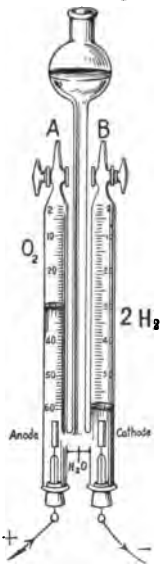

FIG. 313. — Water is broken up into oxygen and hydrogen.
**347. Electrolysis of water.** Water (made slightly acid with sulphuric acid) can be decomposed by an electric current in the apparatus shown in figure 313. The platinum electrodes are connected with a battery or generator, giving at least 5 or 6 volts. The electrode in tube A, which is connected to the positive (+) pole, is called the *anode*, and the other electrode in B is the *cathode*. The current passes through the solution from the anode A to the cathode B. Small bubbles of gas are seen to rise from both electrodes, and the gas collects in tube B twice as fast as in tube A. When tube B is full, we open the switch, and test the collected gases. To test the gas in tube B, we open the stopcock at the top and apply carefully a lighted match. This gas burns with a pale